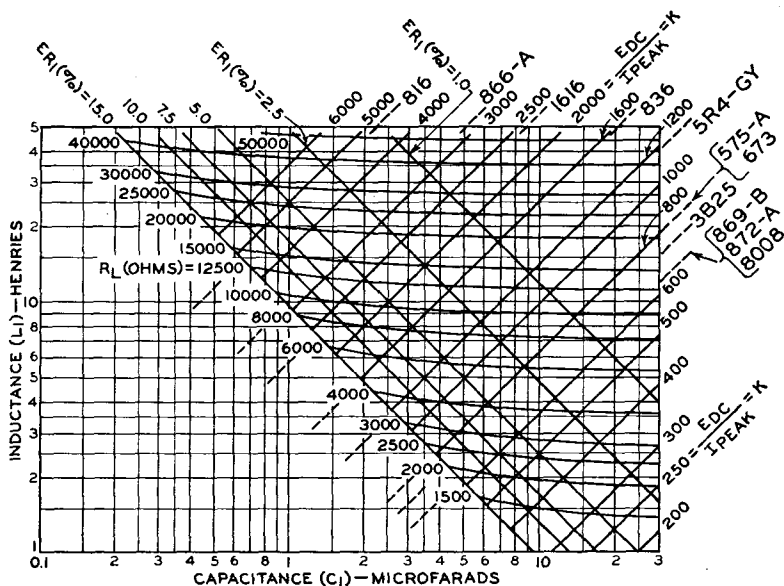

Fig. 62
The filter-design charts shown in Figs. 62 and 63 permit quick determination of inductance and capacitance values for choke-input filters for use with full-wave single-phase rectifier circuits operating from 60-cycle supplies. For other supply frequencies, the inductance and capacitance values indicated by these charts should be multiplied by the ratio  $60/f$ , where  $f$  is the supply frequency used.
The chart shown in Fig. 62 is used to determine component values for single-section choke-input filters or for the first section of a multisection choke-input filter. Single-section and double-section choke input filters are shown in Fig. 64. The  $R_L$  curves in Fig. 62 are used to determine the minimum value of choke inductance required. The equivalent load resistance ( $R_L$ ) in ohms is equal to the dc output voltage ( $E_{av}$ ) of the rectifier in volts divided by the load current ( $I_b$ )
The  $K$  curves in Fig. 62 indicate combinations of minimum filter inductance ( $L_1$ ) and maximum filter capacitance ( $C_1$ ) which will keep the peak anode currents ( $I_{pm}$ ) of the rectifier tubes within their maximum ratings at a given rms anode voltage. The factor  $K$  is equal to the dc voltage from the rectifier tubes at the input to the filter (in volts) divided by the maximum peak-anode-current rating of the rectifier tubes (per anode, in amperes). The  $K$  curves shown in Fig. 62 represent the following relation:
used at its maximum peak-inverse-anode-voltage rating and maximum peak-anode-current ratings simultaneously, the applicable  $K$  line may be determined directly by placing a ruler across the appropriate pair of dashed lines shown in Fig. 62. When a tube is used at voltages below its maximum peak-inverse anode-voltage rating, a lower value of  $K$  determined from the above equation must be used.
The inductance of a well-designed swinging choke varies inversely with load current. The required minimum and maximum inductance for the choke can be determined from Fig. 62 at the intersections of the appropriate  $K$  curve with the curves for maximum and minimum  $R_L$ . It is generally most economical to select low values of swinging-choke inductance and obtain the required smoothing by the use of additional filter sections employing non-swinging ("smoothing") chokes.
**Procedure:**  $R_L = 3200/2.5 = 1280$  ohms. The value  $K = 3200/5 = 640$ . The curve for  $K = 640$  in Fig. 62 would lie between the curves for  $K = 600$  and  $K = 800$  and, consequently, would be above the position where the curve for  $R_L = 1270$  would be shown. Therefore, any combination of inductance and capacitance along the curve  $E_{R1} = 5$  per cent to the left of  $K = 640$  will satisfy the requirements. A 5-henry choke and a 5-microfarad capacitor would be a
**Procedure:** At maximum load,  $R_L = 2500/0.5 = 5000$  ohms.  $K = (2500 \times 1.11)/1.0 = 2775$ . Because the curve in Fig. 62 for  $R_L = 5000$  ohms would be completely below the curve for  $K = 2775$ , the maximum-load value of  $R_L$  (minimum  $R_L$ ) need not be considered in the selection of constants for the first filter section. If an  $E_{R_1}$  of 10 per cent at the output of the first filter section is assumed to be satisfactory, the minimum swinging-choke inductance and the corresponding value for the first-section filter capacitor are selected along the curve  $E_{R_1} = 10$  per cent to the left of the curve for  $K = 2775$ . Suitable values would be  $L_1 = 13.5$  henries and  $C_1 = 1$  microfarad. The maximum inductance of the swinging choke should be as high as practical. If a maximum value of 25 hen-